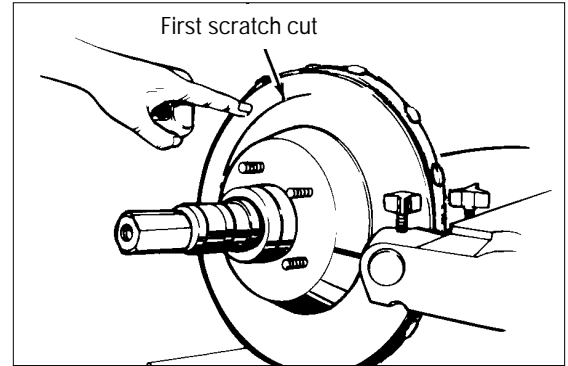

Figure 24 - First scratch cut
10. Turn the left-hand tool bit control until the tool bit contacts the rotor surface and makes a scratch cut (figure 24). After the cut is made, back the tool bits off and turn the lathe OFF.